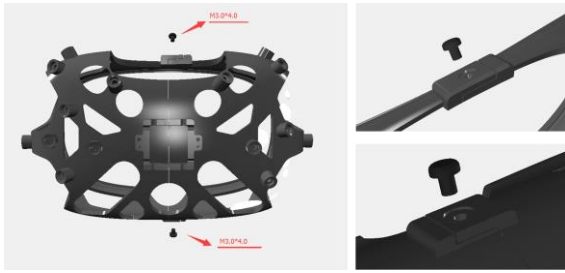

Figure 20 - Connect the two halves using the supplied (short) screws.
4. Slide marker holder pieces over VIVE as indicated in Figure 20.